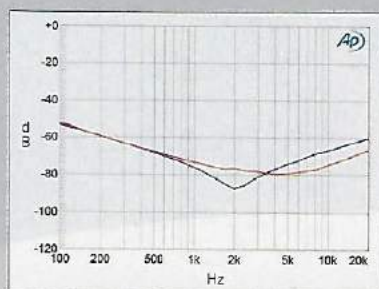

Fig.3 Air Tight ATM-300R, channel separation ref. 6V into 8 ohms (L-R blue, R-L red, 20dB/vertical div).
at the frequency extremes (fig.3). The reduction at high frequencies is presumably due to capacitive coupling between the channels somewhere in the circuit; at low frequencies, it suggests an increasing power-supply impedance as the frequency drops. The wideband, unweighted signal/noise ratio, ref. 2.83V and measured with the input shorted to ground but the level controls set to their maximum, was a moderate